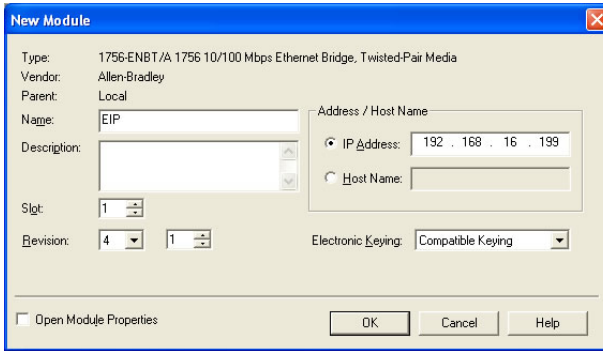

Figure 82: Configuring the New Module
- 6) The “New Module” window will open. Refer to Figure 82.